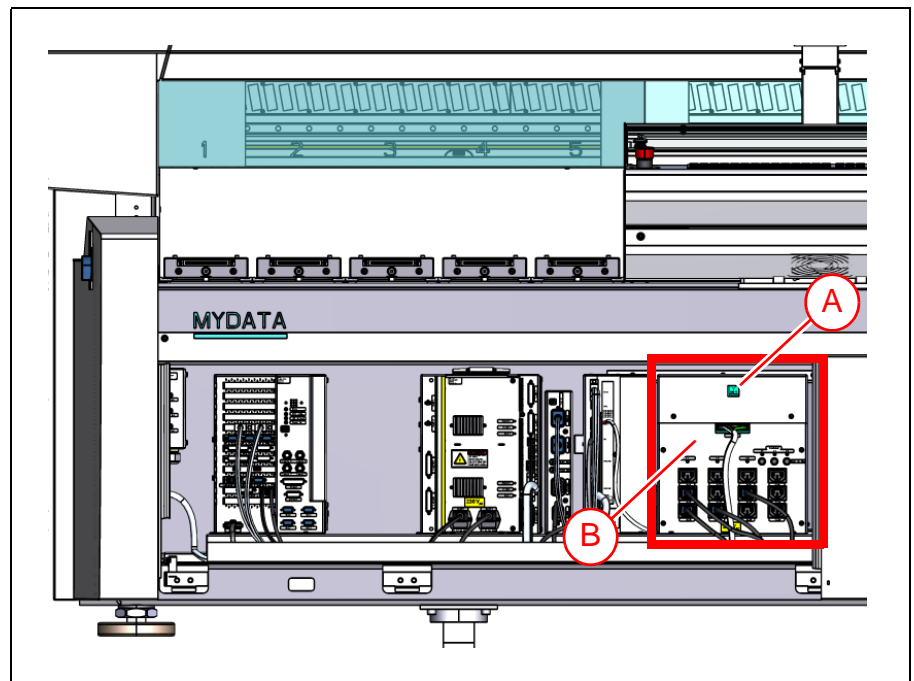

Figure 2-17. EPT3 Unit.
The voltage and Y or Delta selection is done by installing a XNET2 plug ('A' in Figure 2-17) in the EPT3 unit. The EPT3 unit ('B') is located behind the lower left front cover, under the machine table.
5. The EPT3 unit is located behind the front left-hand base cover, under the machine table (see Figure 2-17).